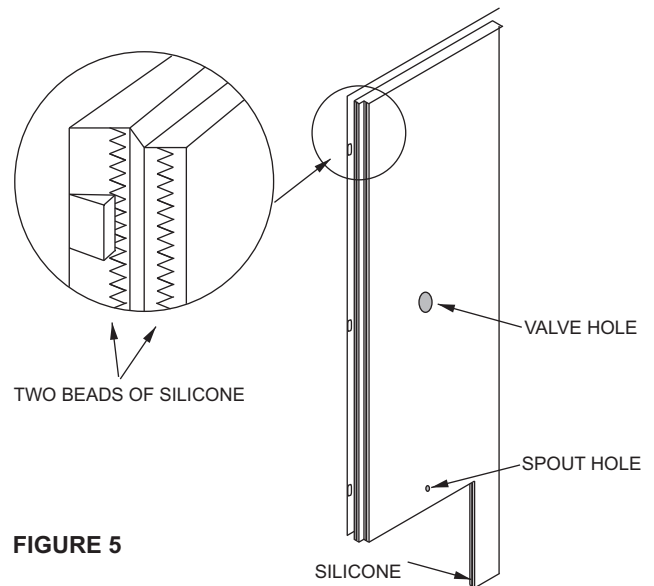

FIGURE 5
- Measure and drill holes for spout and valve on wet wall as shown in figure 5.
- Now push the side wall section in the snap-in notch. Wedge shaped notch is shown in figure 5 detail.